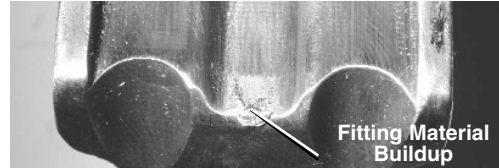

Figure 1 – Fitting Material Build-Up In Press Profile
4. Before use, inspect the press profile. If damaged, discard the attachment. If rusty, dirty or if there is evidence of fitting material build up or other contaminants, manually clean the press profile. Contaminants in the press area (especially near the tips of scissor style jaws or press rings - *see Figure 1*) make it more likely that burrs will form on the fitting during pressing. Burrs can damage the attachment press profile.